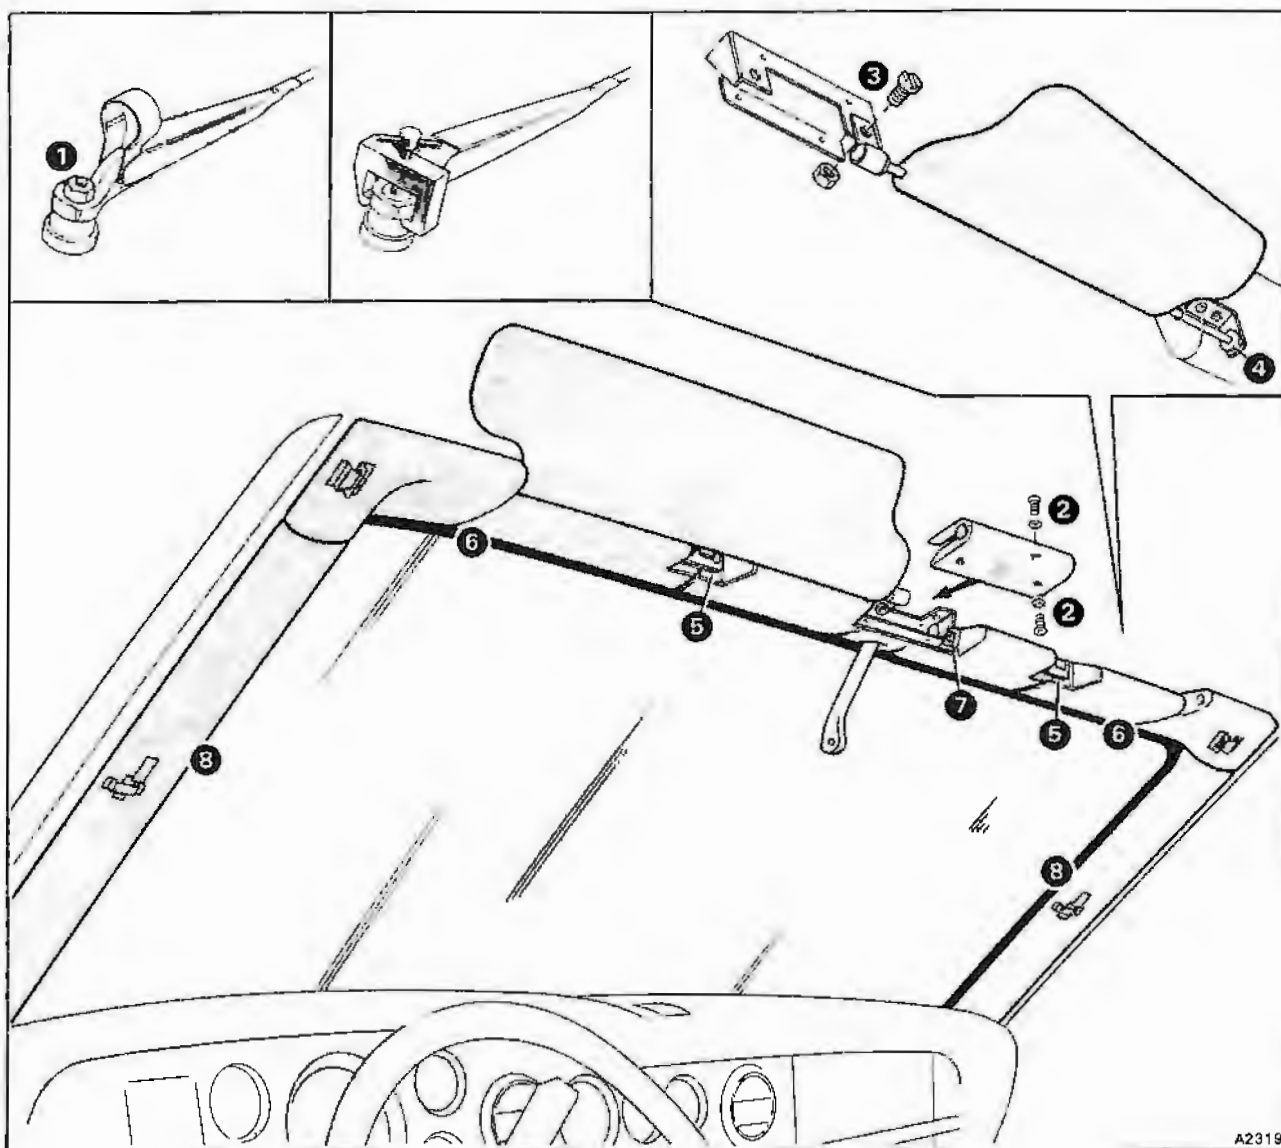

Fig. S24-1 Windscreen interior trim
proceed as follows referring to figure S24-1.
6. To remove the sun visors proceed as follows referring to figure S24-1.